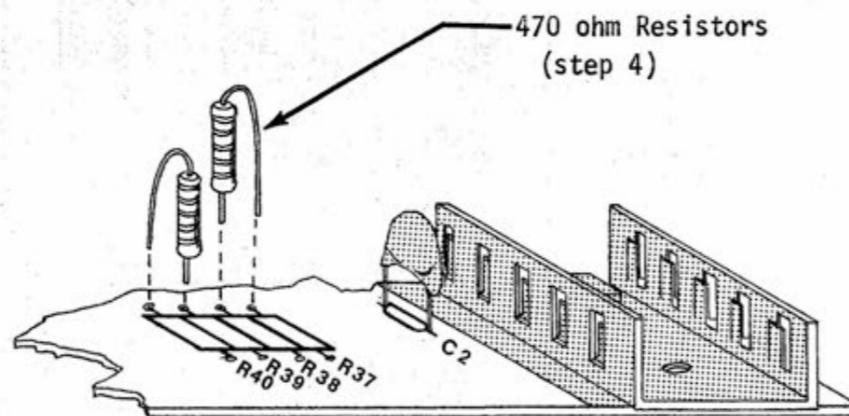

Figure 2
Step 4: Install two 470 ohm resistors vertically in the holes of R37, R38, R39, and R40 closest to IC "P" (see figure 2).